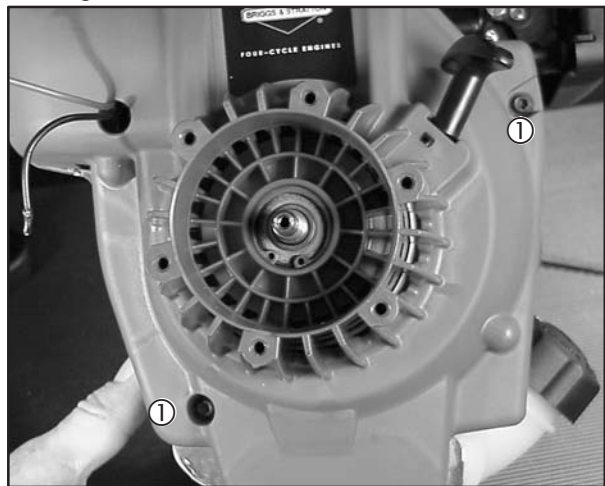

Fig. 10
4. Remove 2 screws (1) from blower housing, Fig. 10.